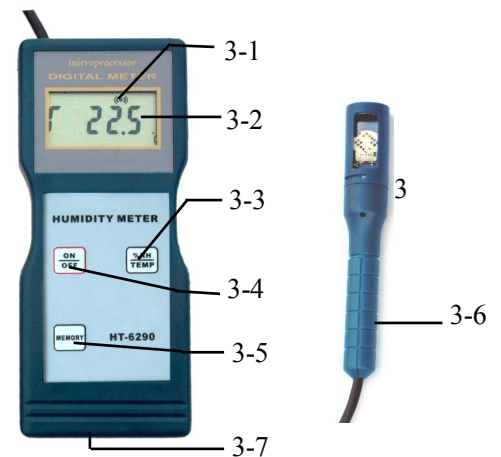

Fig. 1
6.2 Slide the Battery Cover (Fig. 1 , 3-6) away from the instrument and remove the batteries.